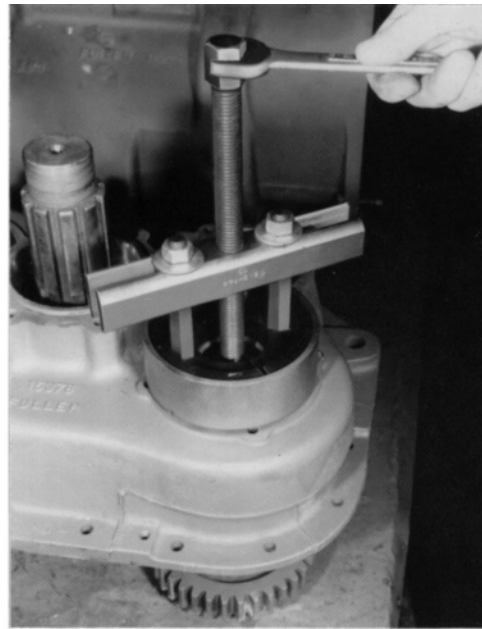

FIGURE 8
5. Assemble collets and sleeve to bearing. See Figure 8.